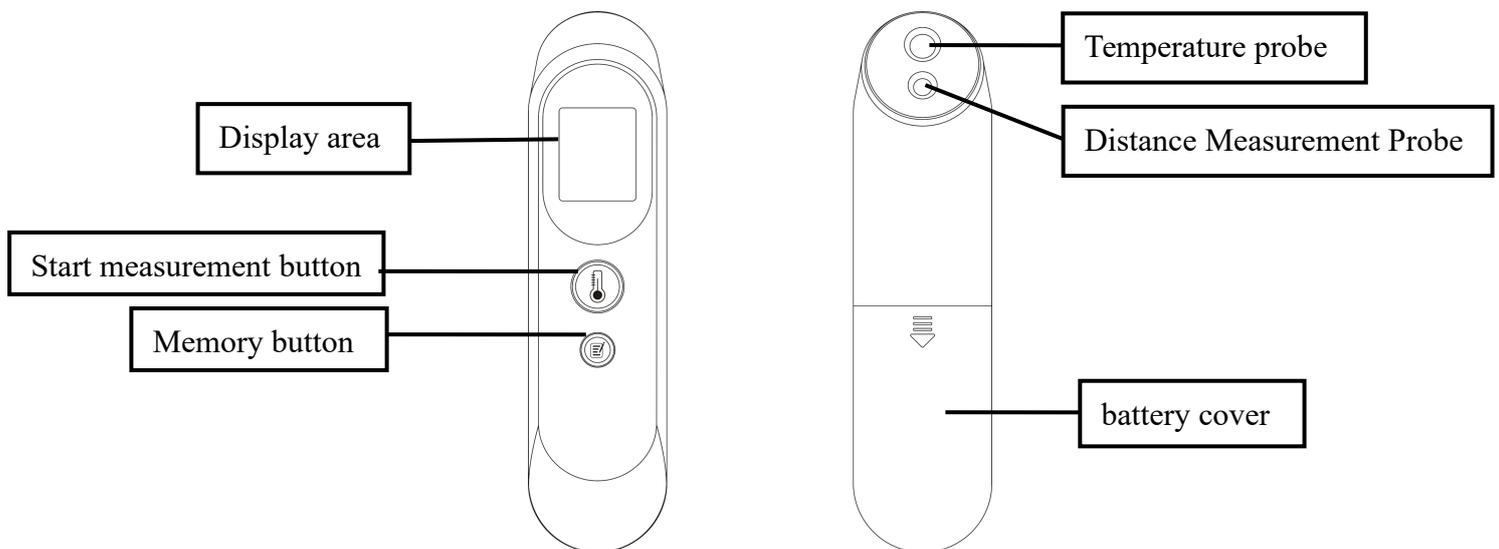
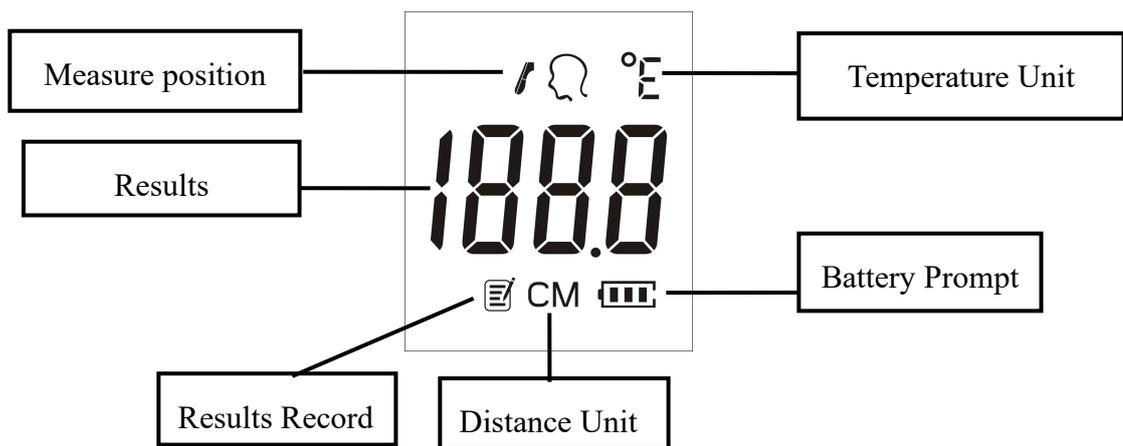

Figure 1
Figure2
1. 1. 1. Non-contact infrared thermometer mainly consists of infrared sensor, distance sensor, control circuit board, display screen, operation buttons, plastic shell, probe protection cover (may not include). The schematic diagram of its structure is shown in Figure 1, and the full-screen display is shown in Figure 2.